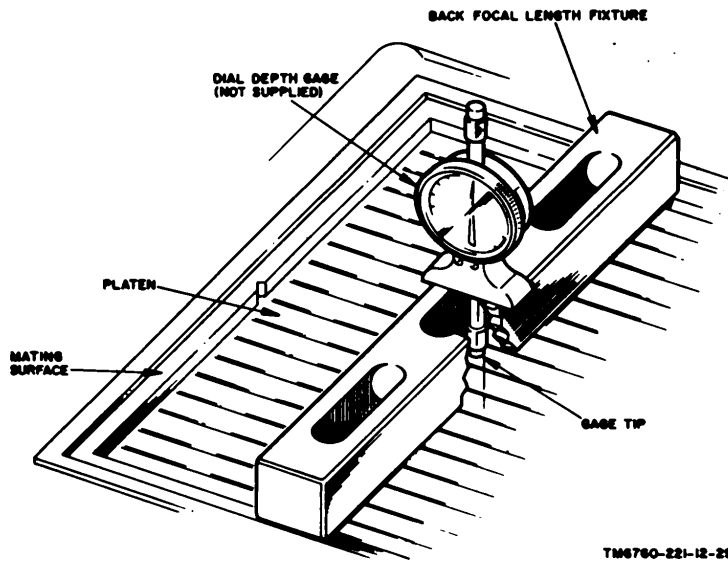

Figure 29. Use of back focal length fixture.
48. Use of Back Focal Length Fixture (fig. 29)